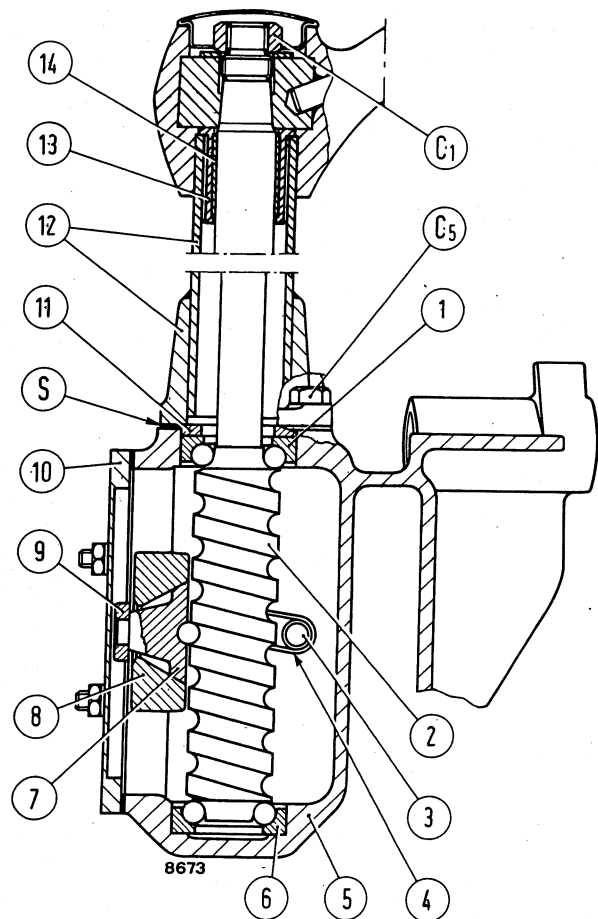

Fig.1 - Sections through Steering Unit
Remove top cover (12), interpose a pack a shims (S, Fig. 1) of thickness equal to the average reading. refit the top cover and tighten the screws to the torque given on page 255.